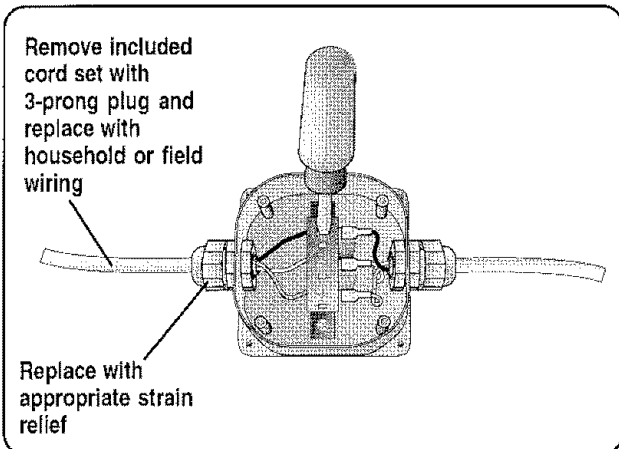

Figure 6
Remove the included cord set with three-prong plug and use the supplied junction box to connect directly to the household or field wiring. Make sure the household or field wiring meets the above electrical supply requirements as well as national and local codes (see Figure 6).
1. Remove the dishwasher electrical supply junction box cover and disconnect the supplied cord set with three-prong plug from the terminal block by loosening the corresponding screws (see Figure 6).
4. Insert the ground leg of the household or field wiring to the ground connection "G" of the terminal block and securely tighten the terminal block screw (see Figure 6).
5. Insert the neutral leg of the household or field wiring to the "N" connection of the terminal block and securely tighten the terminal block screw (see Figure 6).
6. Insert the line leg of the household or field wiring to the "L" connection of the terminal block and securely tighten the terminal block screw (see Figure 6).